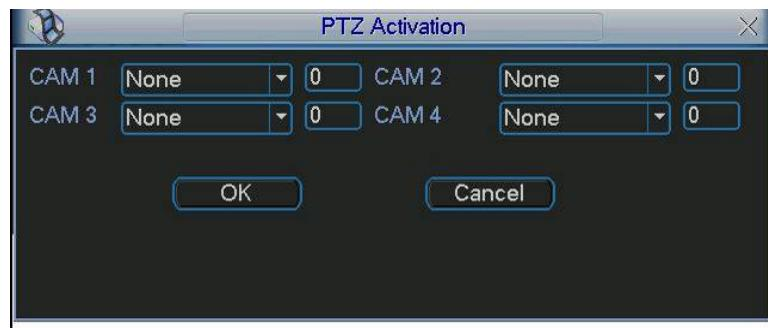

Figure 4-15
- PTZ activation: Here you can set PTZ movement when alarm occurs. Such as go to preset, tour &pattern when there is an alarm. Click “select” button, you can see an interface is shown as in Figure 4-15.
- PTZ activation: Here you can set PTZ movement when alarm occurs. Such as go to preset, tour & pattern when there is an alarm. Click “select” button, you can see an interface is shown as in Figure 4-15.